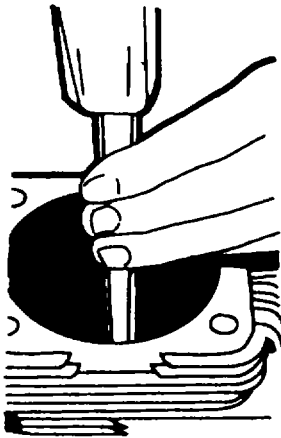

Figure 5-74. Driving Out Valve Guide
1. Uniformly heat the cylinder head in an oven to a temperature of 428°F (220°C). Do not heat for longer than 30 minutes. Drive out valve guide from the seating ring side (assembly arbor No. 003-0453, figure 5-74).